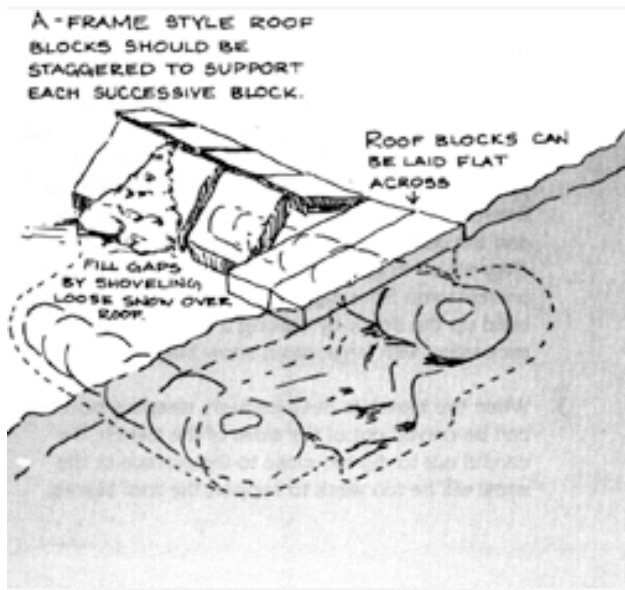

Figure 11-3: Trench roof options.
4. Roof blocks can be either laid flat across the trench or set up as an A-frame, which gives more head room. Roof blocks leaned A-frame style can be staggered to support each successive block. Don't worry about gaps or holes, as these can be filled in later with snow chunks. Good dimensions for roof blocks are approximately 18" x 5" x 30", but let common sense and snow conditions dictate what size blocks to cut. (See figure 11-3).